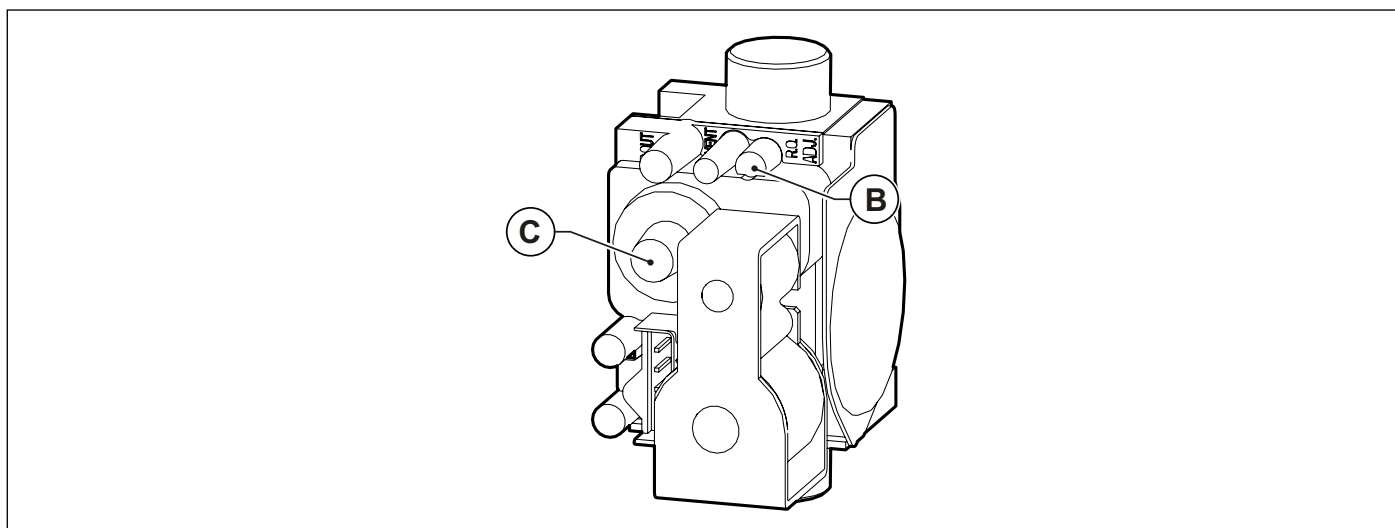

Fig. 25 Adjusting CO₂ value
- Set flue gas CO₂ content by turning the ratio adjuster **B** (see Fig. 25 Adjusting CO₂ value) and ensure that reading falls within the limits of Tab. 12 Flue CO₂ content. Let boiler flue cleaning function on and continue with the next point "Minimum heating output adjustment".
- Set flue gas CO₂ content by turning the offset control **C** (see Fig. 25 Adjusting CO₂ value) and ensure that reading falls within the limits of Tab. 12 Flue CO₂ content.